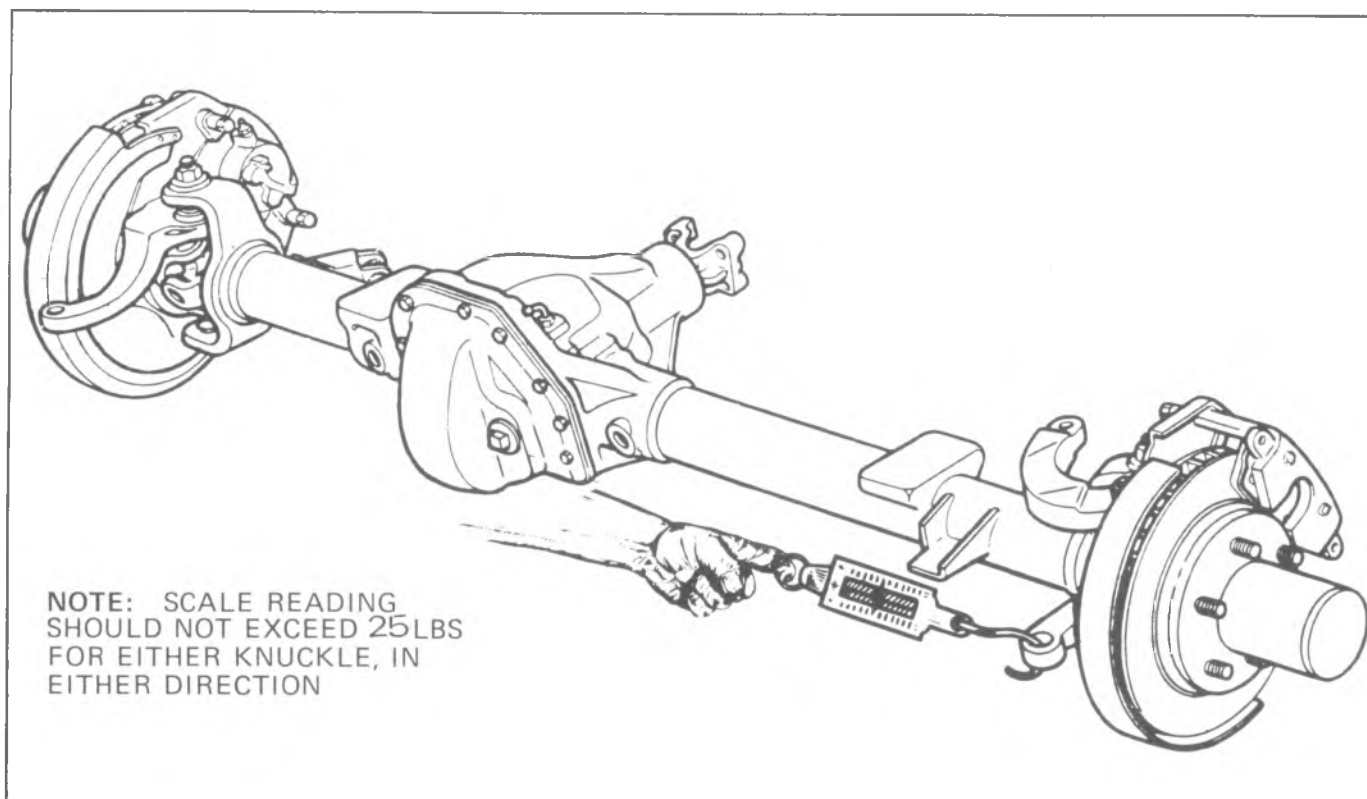

Fig. 3C-4K--Determining Front Axle Ball Joint Adjustment
3. Apply a fish-scale to the tie rod mounting hole of the steering knuckle arm. With the knuckle assembly in the straight-ahead position, determine the right angle pull required to keep the knuckle assembly turning after initial break-away. This pull should not exceed 25 lbs., for each knuckle assembly, in either direction. See Figure 3C-4K.